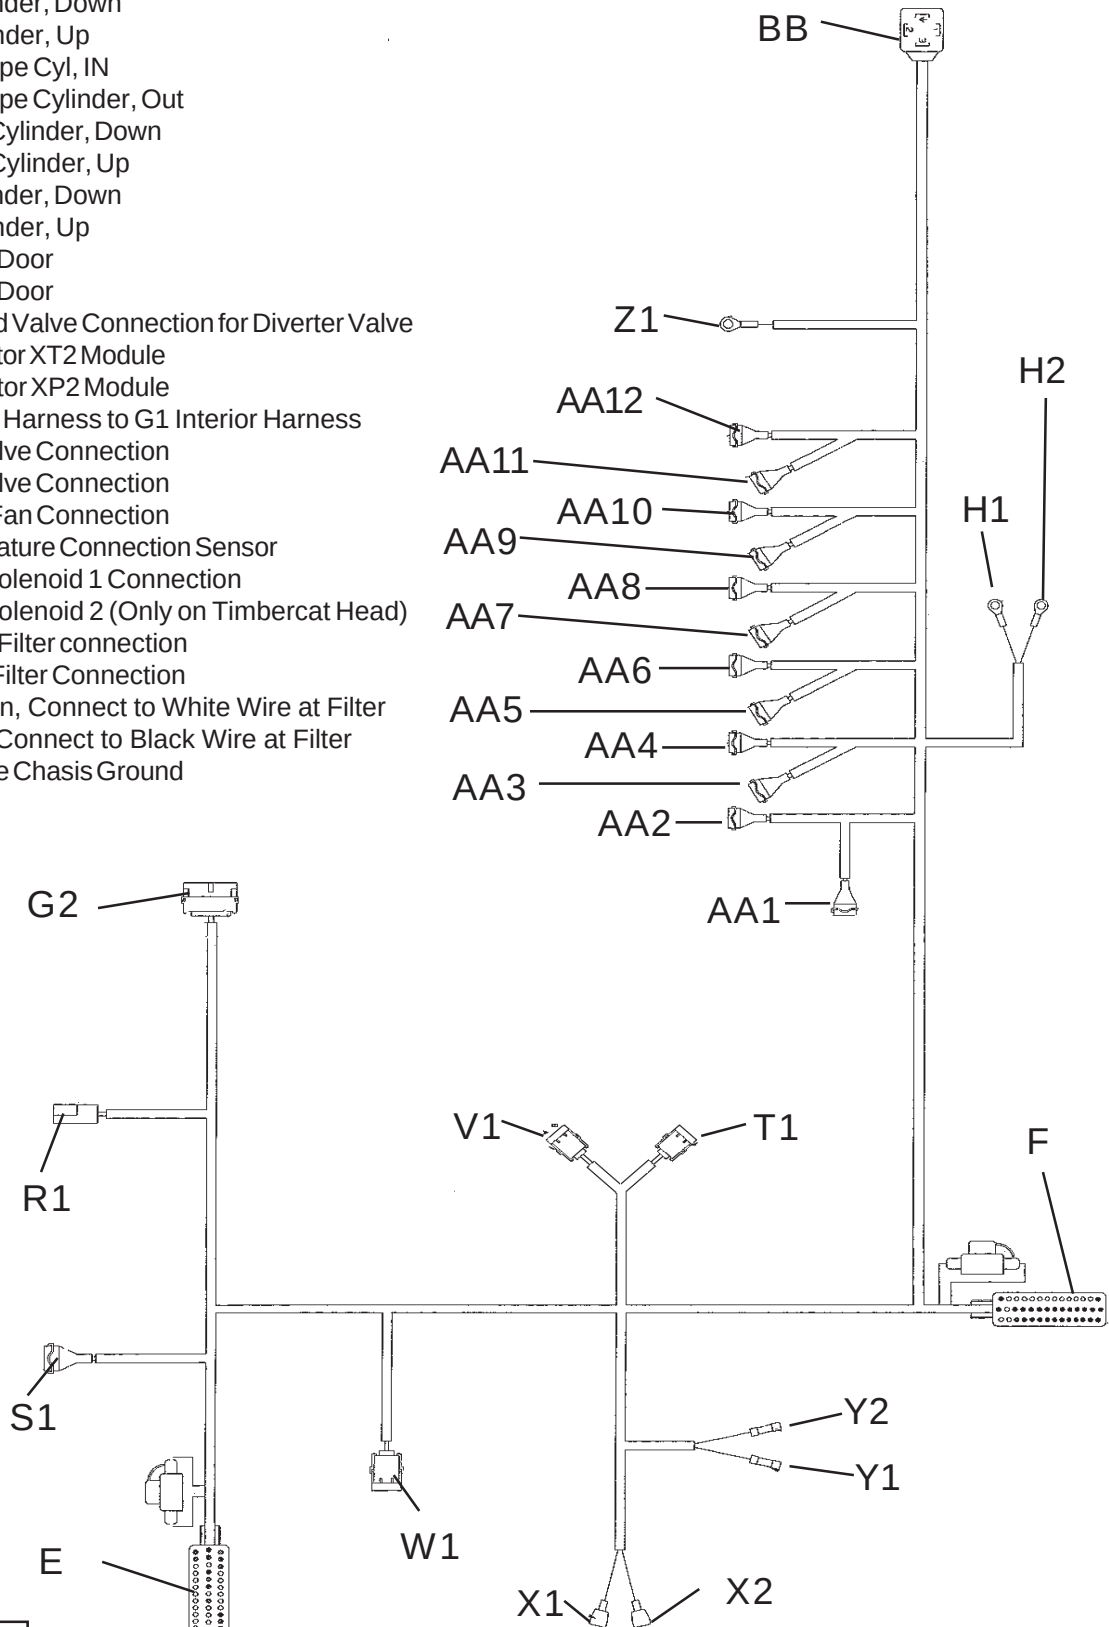

FIGURE 27
14. Diverter Valve Wiring Connection: The plug for the diverter valve is at the end of the exterior wiring harness and will be marked with code BB. The plug and wire will run down the LH side of tractor from the front mounted hydraulic pump / Tank. The diverter valve is bolted to the LH front Frame Mount bracket. The holes are already in the bracket and the diverter valve should have already been mounted. If valve has not been mounted it can be mounted now (See Figure 27, 28 , 31 & 38).